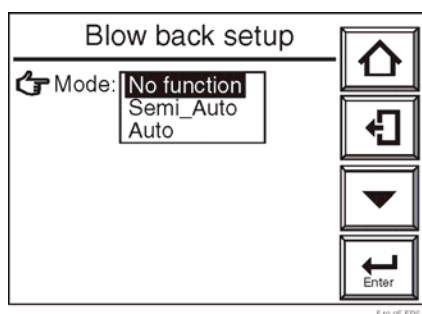

Figure 10-8 Blow Back Setup Screen
2. Select the Blow back setup from the Maintenance display screen and select Mode. The mode selection display shown in Figure 10-8 appears.